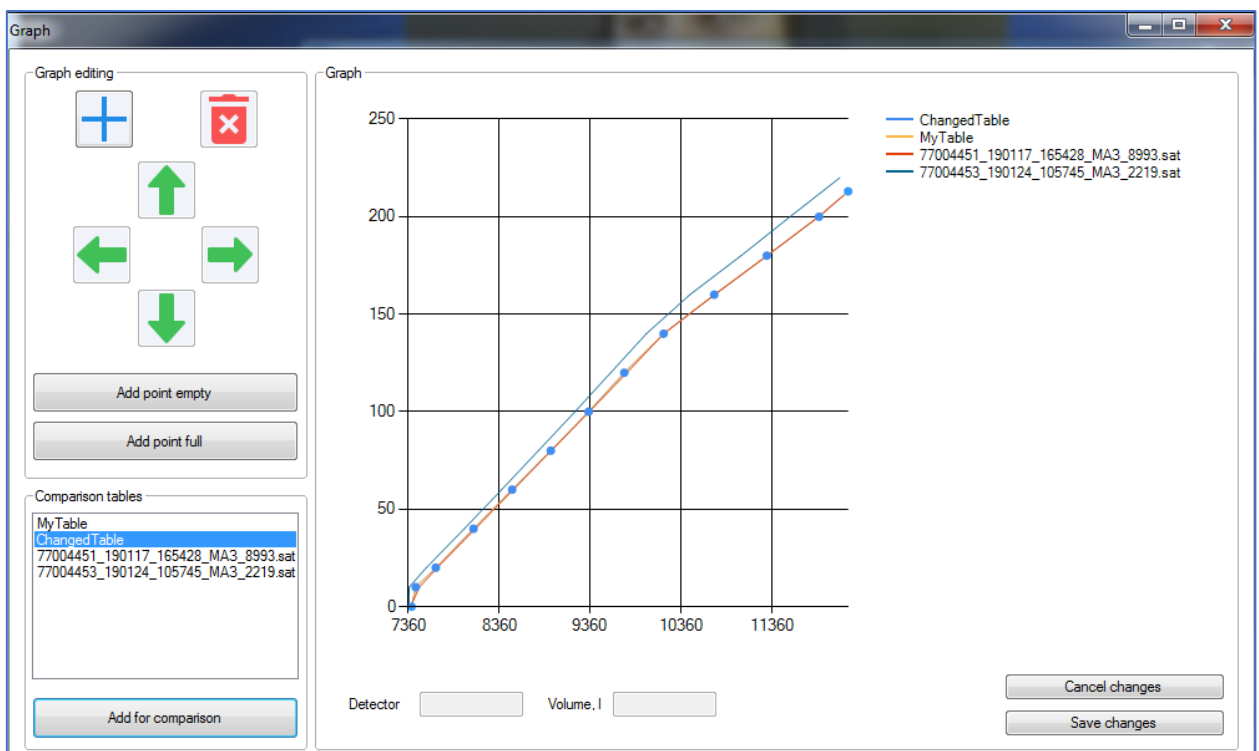

fig. 6.18. Calibration tables for comparison
- it is possible to load several tables from the file for comparison (fig. 6.18).